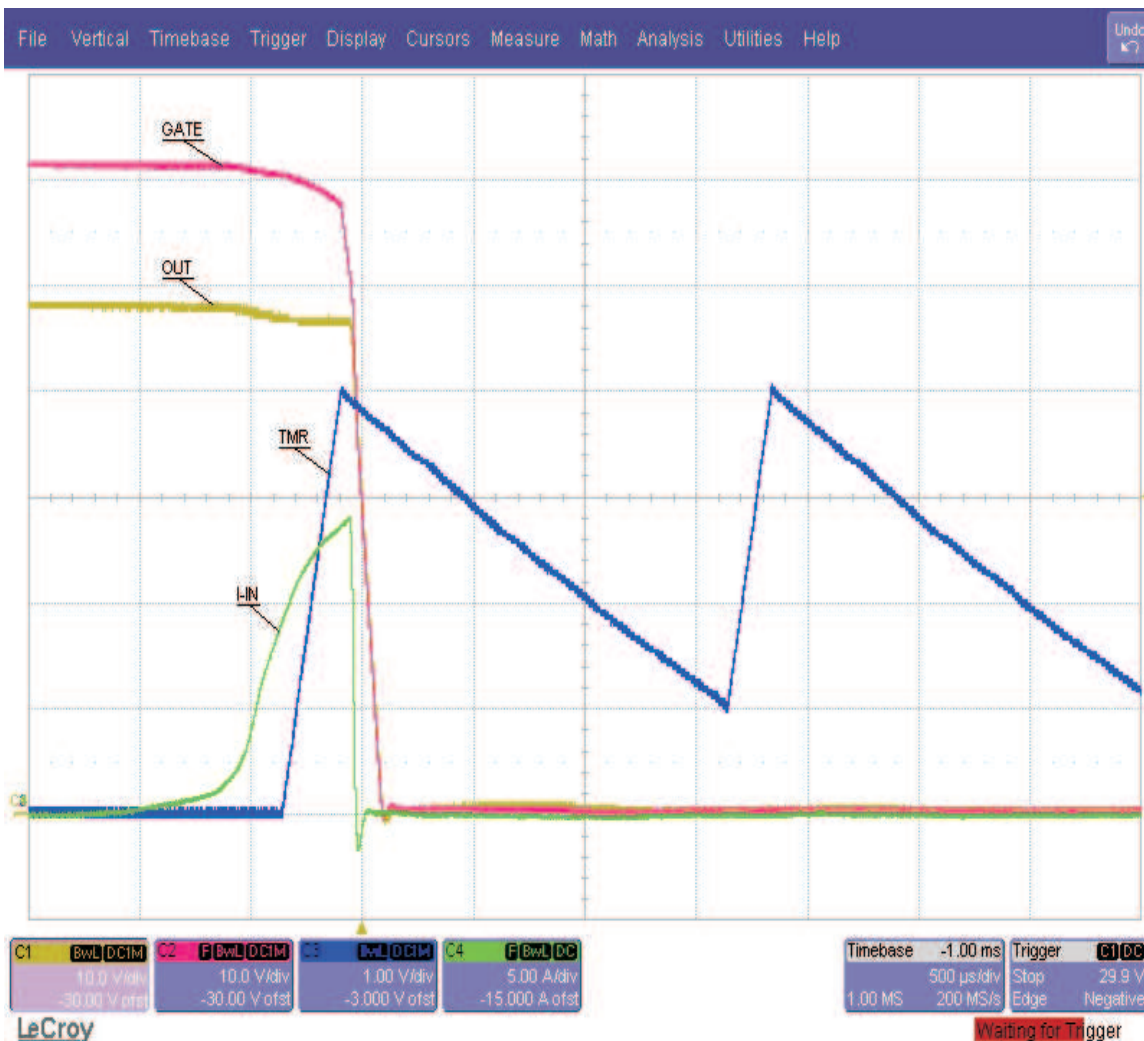

Figure 16. TPS2480/81 Restart Cycle Timing
The TPS2480/81 features superior power-limiting, MOSFET protection that allows independent control of current limit (to set maximum full-load current), power limit and overload time (to keep FET in its SOA), and overload time (to control case temperature rise). The typical application circuit, and oscilloscope plots of Figure 12 and Figure 16 demonstrate many of the functions described above.
**Automatic Restart (Figure 16)**